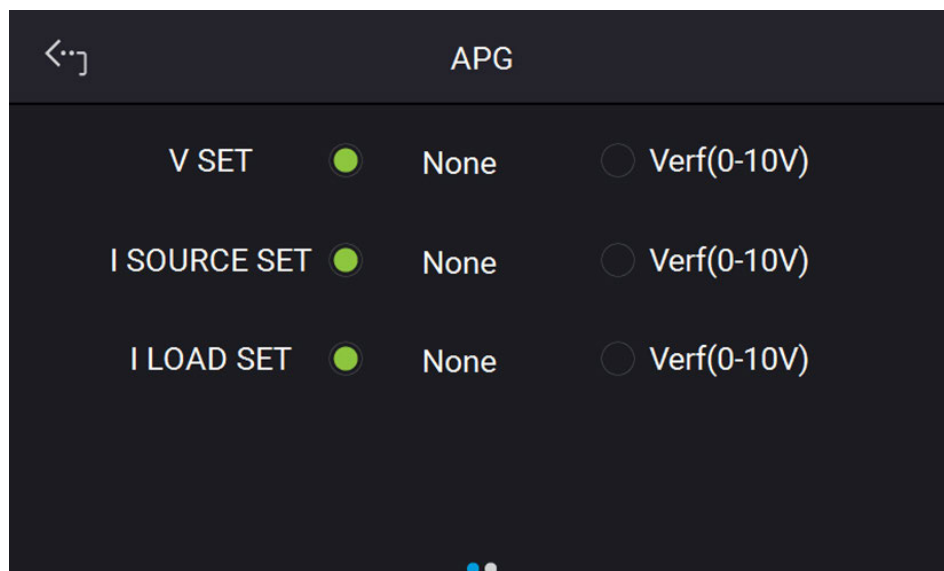

Figure 3-60
1. Tap "Interface" and select APG to appear on the screen as Figure 3-60 or Figure 3-61 shows.